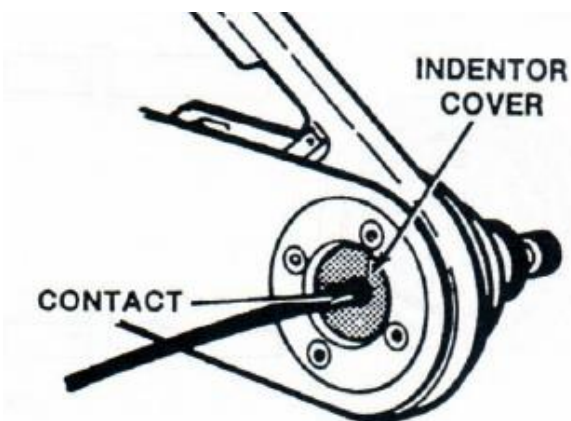

Figure 156
18. Put the contact and wire in the crimping tool with the contact centered between the stops in the crimping tools while holding the wire in the contact push the handles together until the stops are together. Release the handle and removed the crimped contact and wire. Figure 156